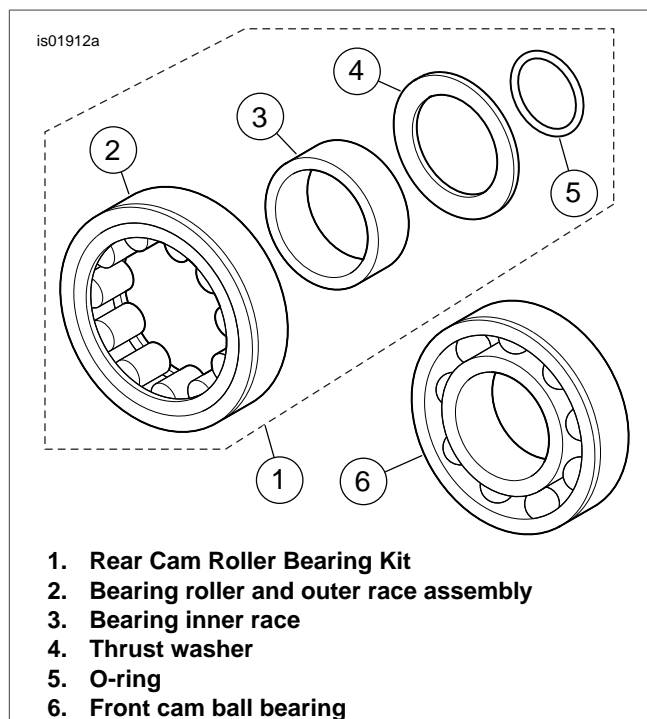

Figure 1. Cam Bearings
1. **ALL models:** See Figure 1. Get the new Rear Cam Roller Bearing Kit (Part No. 8983) from inside the Cam Service Kit (Part No. 17045-99D, purchased separately), and install as indicated in step 2.
2. See Figure 1. Install the O-ring (5), thrust washer (4) and bearing inner race (3) onto the rear camshaft as follows:
See Figure 1. The front and rear cam bearings **are not interchangeable**. The rear bearing is a roller bearing, and the front bearing is a ball bearing.
4. See Figure 1. Install the **new** front cam ball bearing (6) and rear cam roller bearing (1) into the cam support plate as follows: